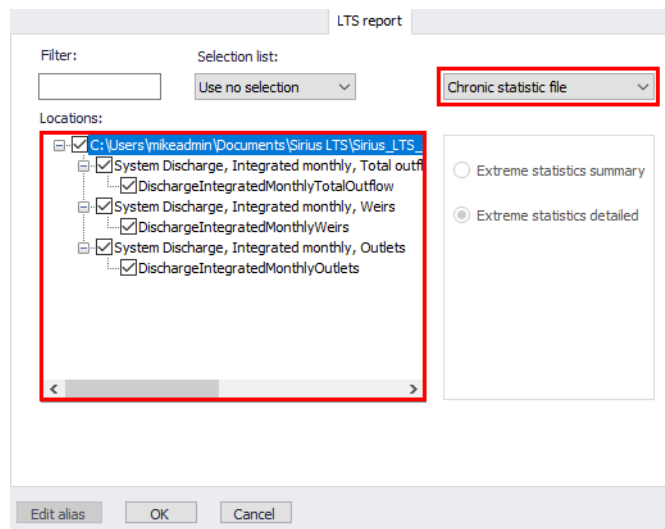

Figure 20.75 LTS chronological statistics report configuration
- Access the ‘LTS Report’ tab on the ‘Result Items’ dialog (Figure 20.75).
- Choose to generate a report with the ‘Chronological statistics file’ from the dropdown menu on the upper right side of the page (Figure 20.75).
- Select the items which shall be included in the report (Figure 20.75). Note that relevant items are offered on the Locations panel only if the appropriate LTS result file has been activated for the result document creation.